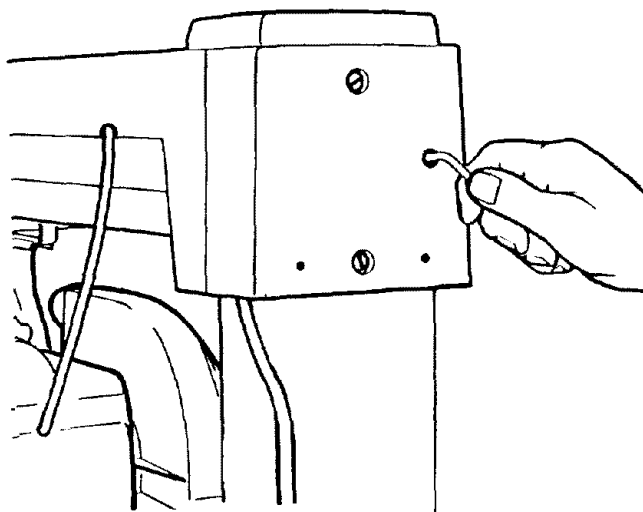

Fig. 157 - Location of Hex Socket Cap Screw
2. With a 3/16 inch hex "L" wrench find the 1/4-20 hex socket cap screw through the hole in the rear of the *arm cover*. To tighten turn the wrench clockwise approximately 1/4 turn. (Figure 157)